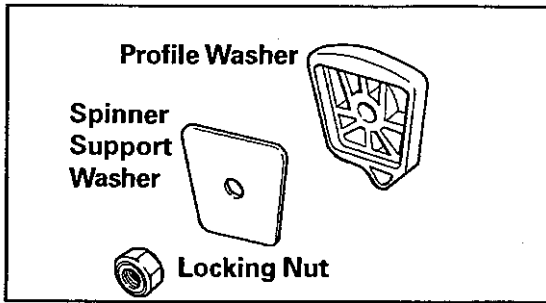

Figure 7-5
4. Remove the three locking type nuts ( $\frac{1}{2}$ " socket) securing the spin basket to the spider assembly (Figure 7-5).